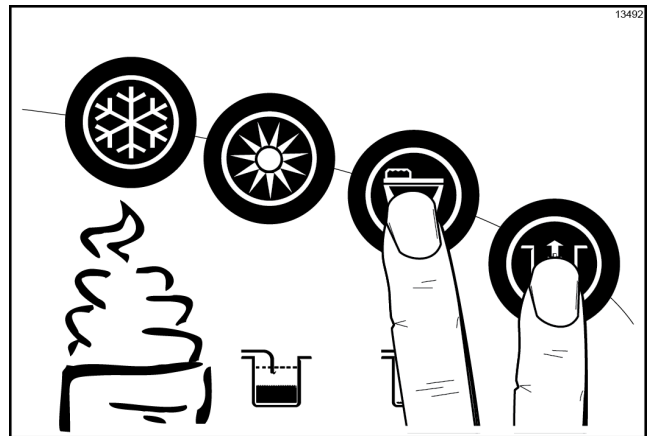

Figure-164
10. Press the Wash and Mix Pump symbols   and close the draw valve. (See Figure-164.)